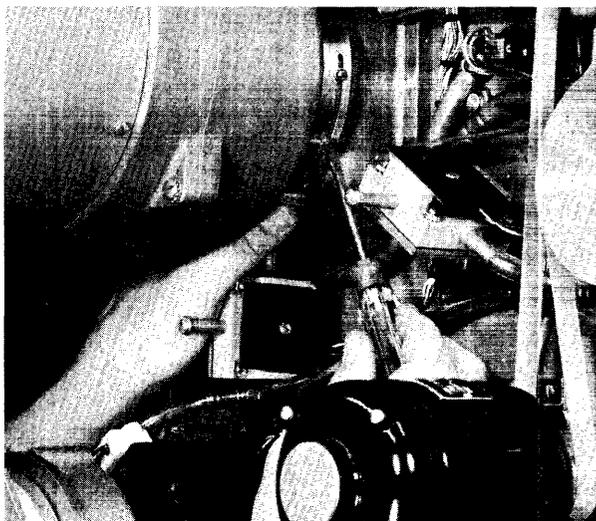

Figure 6-26
Step 1: With the transport running and the vacuum gauge attached, loosen the two vacuum adjust band mounting screws and slide the band as shown in Fig. 6-26 until the proper vacuum is obtained. Sliding the band to enlarge the slot will reduce the vacuum, while closing off more of the slot will increase the vacuum.